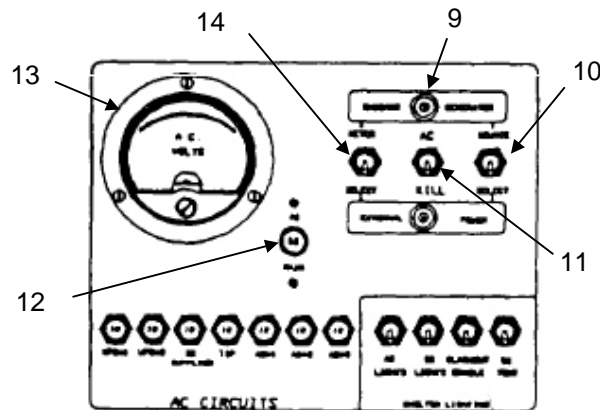

Figure 2-13. AC Circuits Panel
h) Push in the 10 Amp DC CONTROL breaker (6) on the GENERATOR CONTROL panel.
i) Move the MASTER SWITCH (8) on the GENERATOR CONTROL panel down to the PREHEAT position and hold it there for approximately 10 seconds.
k) Allow the generator engine to warm up for a few minutes and then move the AC POWER switch (7) on the GENERATOR CONTROL panel to the ENABLE position. The ONBOARD GENERATOR power indicator lamp (9) (Figure 2-13) on the AC CIRCUITS panel should illuminate.